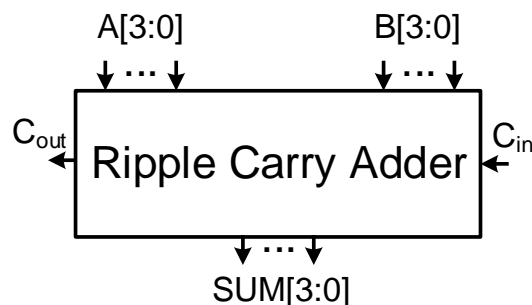

Fig. 1. Ripple Carry Adder
A 4-bit ripple carry adder shown in Fig. 1 is designed with fully complementary static logic gate of full adder (FA). Input signals are  $A[3:0]$ ,  $B[3:0]$ , and  $C_{in}$ . Outputs are  $SUM[3:0]$  and  $C_{out}$ .
- (1) Try to design the fastest adder when each input signal is driven by one unit size inverter. For the output loads, 5 unit size inverters are used for each output signal. First, show your block diagrams in terms of the 1-bit FA. Second, show the circuit schematic of the FA. Use logic effort concepts (do not have to write down the procedure) to design **transistor widths**. **Describe your design concept.** (40%)